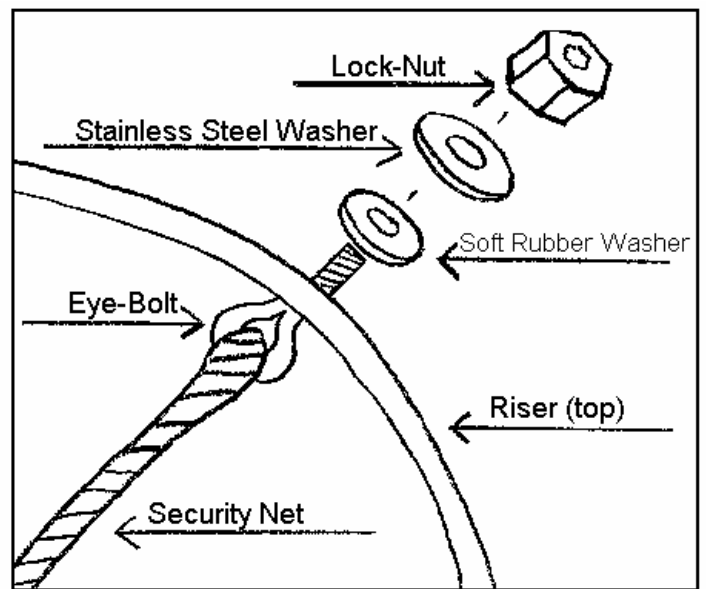

Figure 1.1
4. Inserting eye-bolts through 1/4" holes, first place 1/4" soft rubber washer over eye-bolt, followed by 1/4" stainless steel washer and 1/4"-20 stainless steel lock-nut (refer to Figure 1.1). A 7/16" deep well socket on a clutch equipped battery pow-